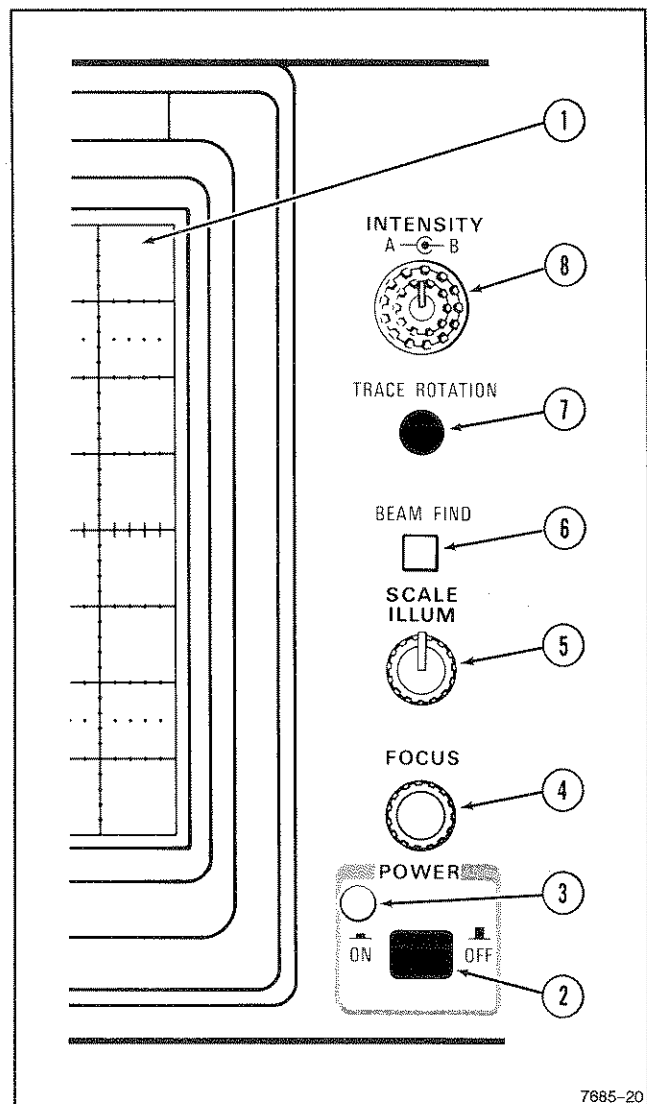

Figure 2-3. Power and display controls and power-on indicator.
Refer to Figure 2-3 for location of items 1 through 8.
- ① **Internal Graticule**—Eliminates parallax viewing error between trace and graticule lines. Rise-time amplitude and measurement points are indicated at the left edge of the graticule.
- ② **POWER Switch**—Turns instrument power on and off. Press in for ON; press again for OFF.
- ③ **Power Indicator**—An LED that illuminates when the instrument is operating.
- ④ **FOCUS Control**—Adjusts for optimum display definition.
- ⑤ **SCALE ILLUM Control**—Adjusts the light level of the graticule illumination.
- ⑥ **BEAM FIND Switch**—When held in, compresses the display to within the graticule area and provides a visible viewing intensity to aid in locating off-screen displays.
- ⑦ **TRACE ROTATION Control**—Screwdriver adjustment used to align the crt trace with horizontal graticule lines.
- ⑧ **A and B INTENSITY Controls**—Determines the brightness of the A and B Sweep traces.